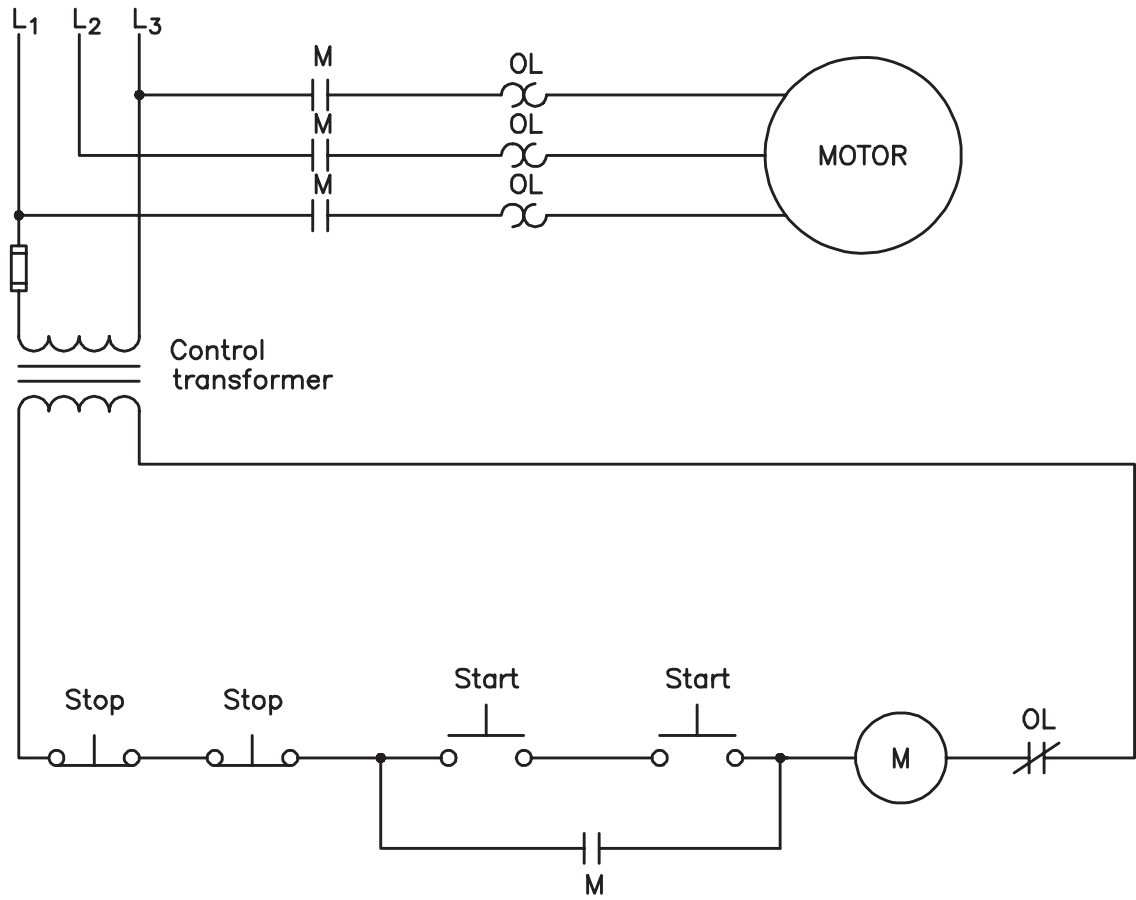

Figure 27-7 The start buttons are connected in series.
4. What would be the action of the circuit if both start buttons were to be connected in series as shown in Figure 27-7?
- Following the procedure discussed previously, place wire numbers on the schematic in Figure 27-7. Place corresponding wire numbers on the components shown in Figure 27-8.